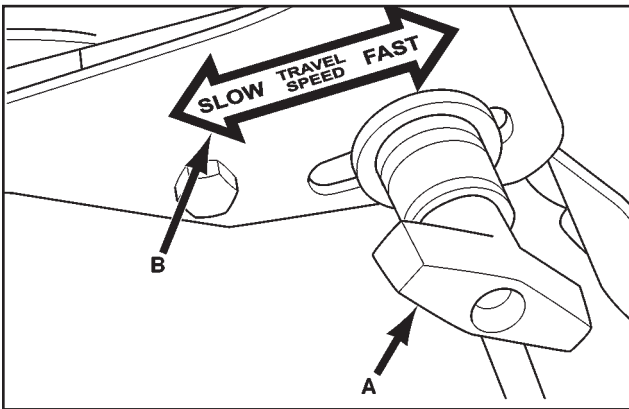

FIGURE 17 Variable Speed Control Knob
4. Tighten control knob, A (See Figure 17).